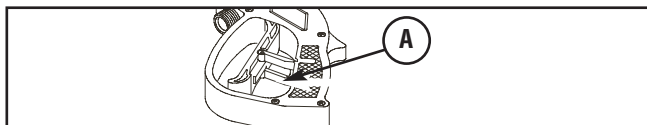

Figure 17 — Spray Gun with Trigger Lock Engaged
- Engage trigger lock (A) on spray gun trigger (see Figure 17).